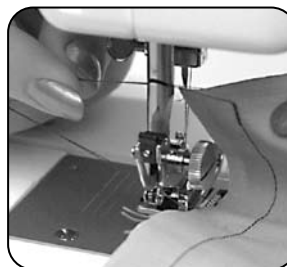

Fig. 4
11. Use the thread cutter on the back of the presser foot bar to cut both threads close to the fabric [Fig. 4].